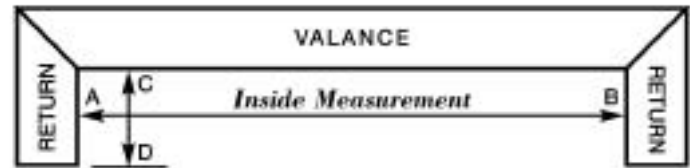

Fig. 1
- Valances and returns are cut at the inside measurement. The inside measurement refers to the inside wall of the valance or the returns. (*Lengths A B and C D in Fig. 1*).
Valance is cut to the ordered blind width plus  $\frac{5}{8}$ " on the inside of the valance (*length A to B on Fig. 1*) with standard returns.
Valance is cut to the ordered valance width on the inside of the valance (*length A to B on Fig. 1*) with returns made as ordered. Always make sure the width ordered is large
- Returns can be cut as small as  $\frac{1}{2}$ " minimum inside (*length C to D on Fig. 1*)